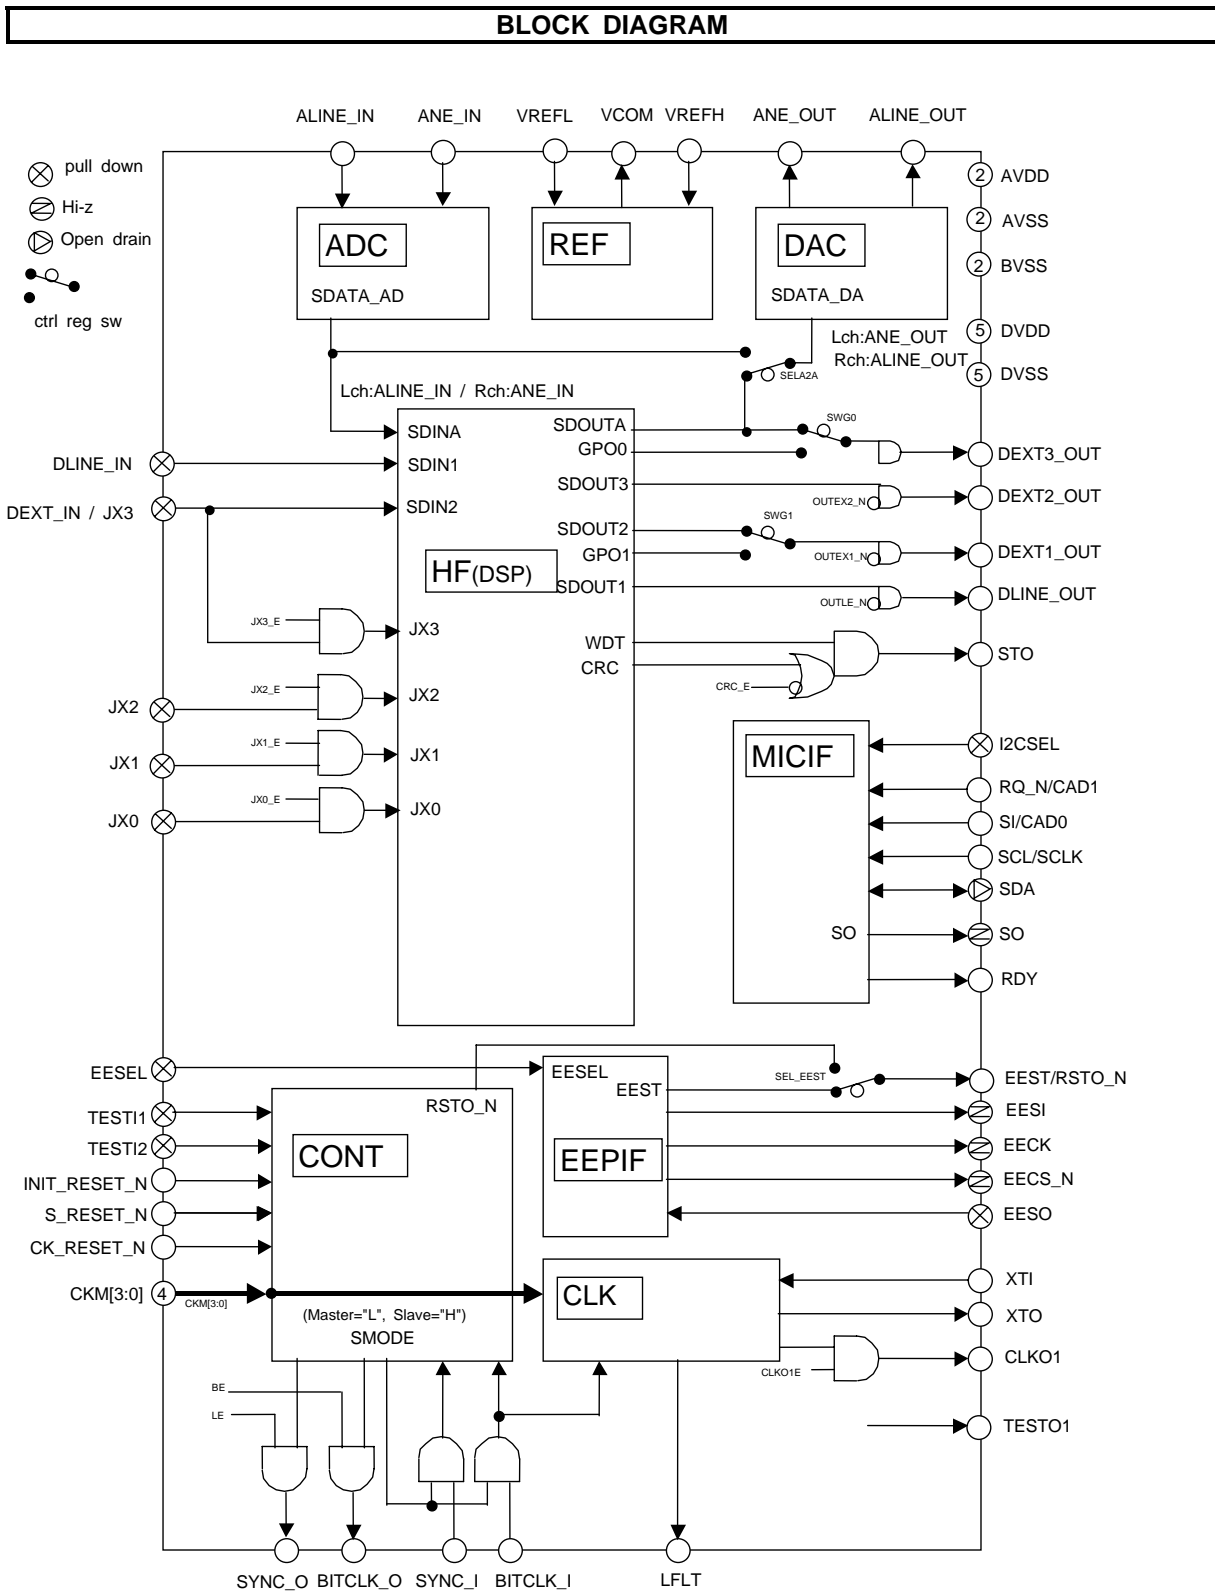

Figure 1. Block Diagram
* Figure 1 shows a simplified diagram of the AK7753, which isn't the perfect same as the actual circuit diagram.